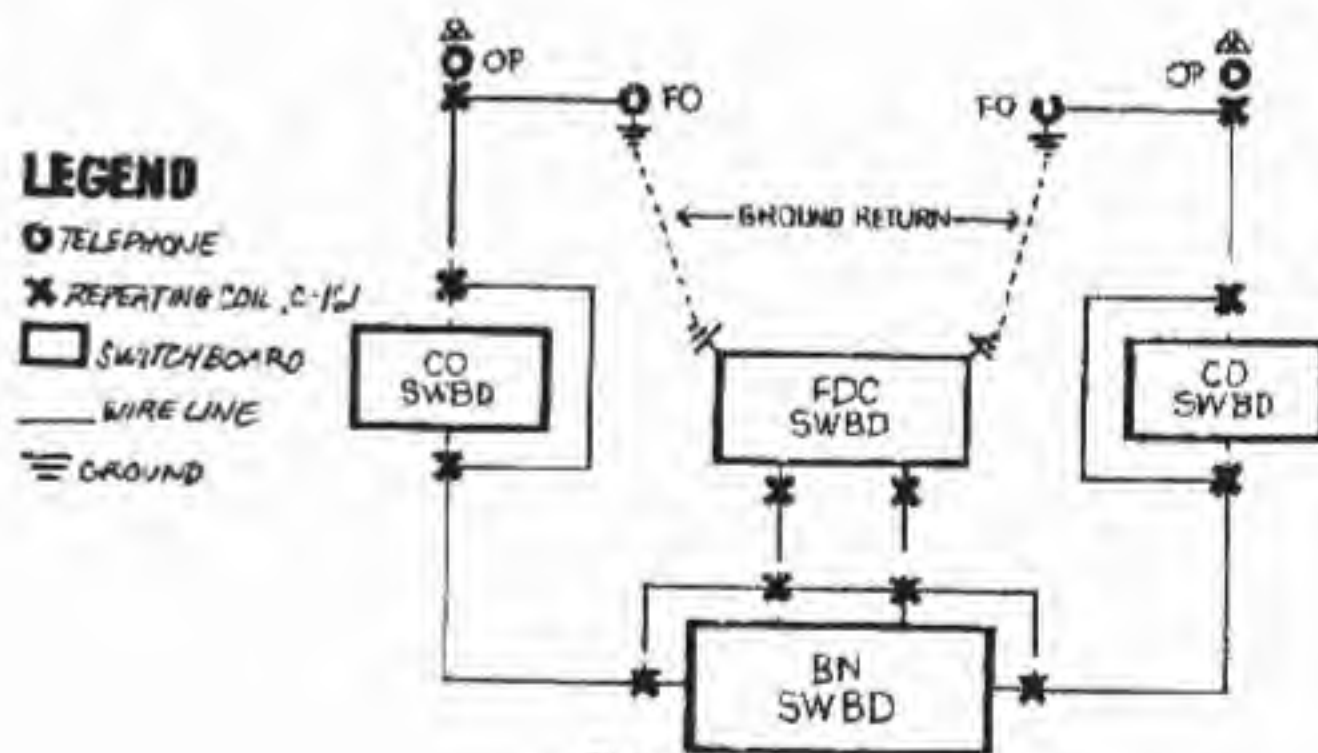

Figure 4
2. The method of using these coils is the simplex circuit arrangement (See Figure 4). One coil is connected in the OP to a company wire line at a point nearest the FO's position. The FO's telephone is then connected with a